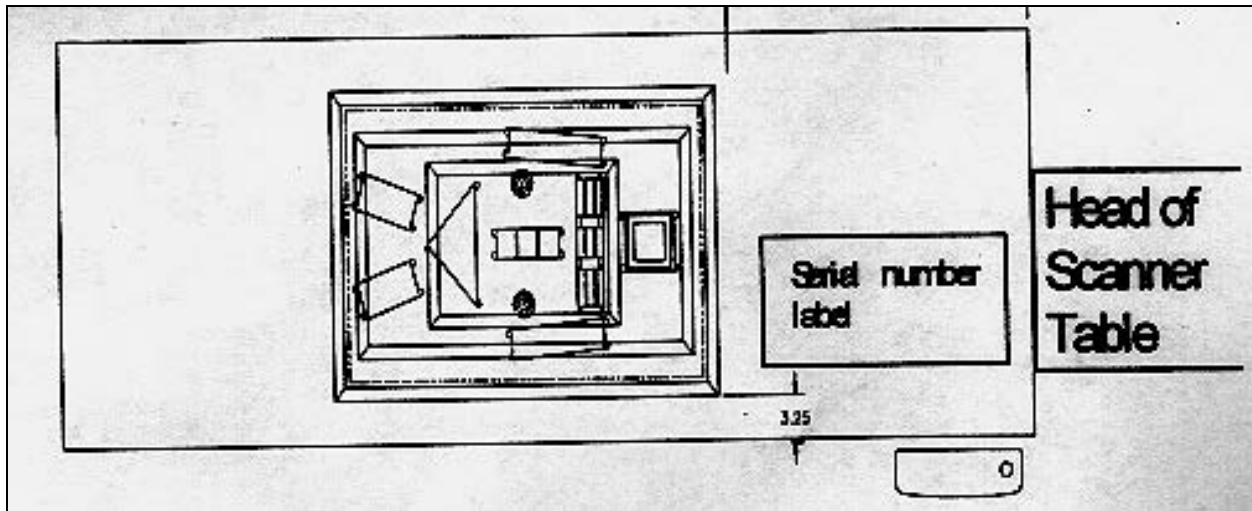

Figure 6-4. Layout of whole body phantom – top view
- The machine will scan the phantom (Figures 6-4 and 6-5).